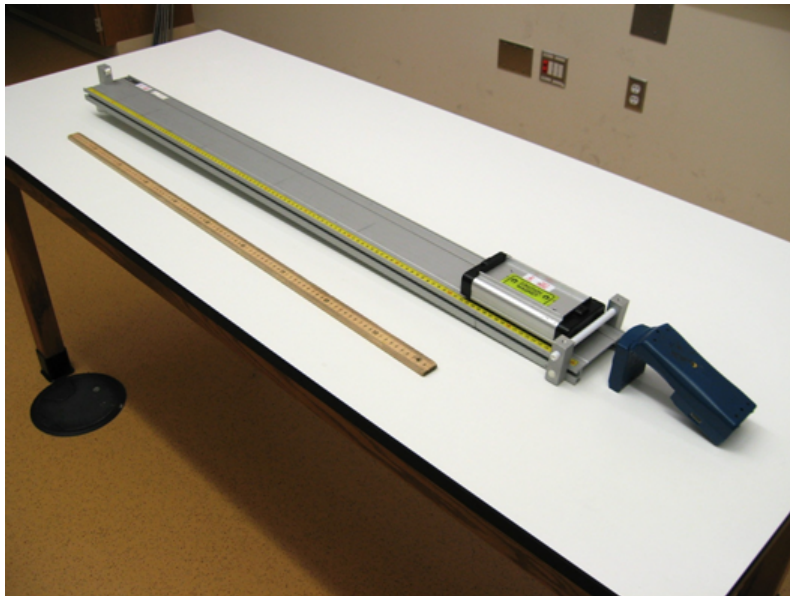

Figure 3
- 3 Set up the low-friction track and cart as shown in Figure 3. Place the 2-cm spacer under the foot of the track and place the motion detector in line with the track, 10–20 cm away from the end stop as shown in the figure.